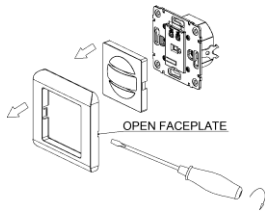

Figure1
- Remove the faceplate of sensor and adjust the time and LUX knob.(refer to figure 1)